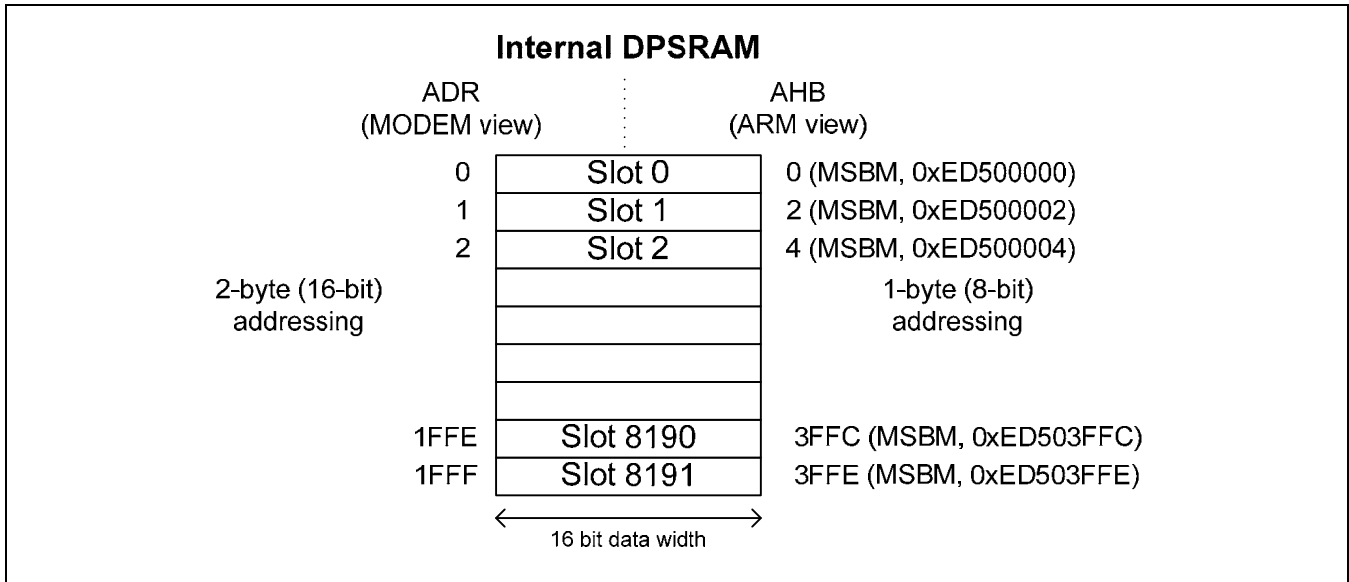

Figure 8.11-2 MODEM I/F Address Mapping
- There are two address views for MODEMIF, one is MSM address (ADR) for MODEM chip, and the other one is AHB address for S5PC100. AHB address is twice of ADR. For example, 0x3FFC at AHB bus is 0x1FFE at ADR. Figure 8.11-2 helps you to understand it.